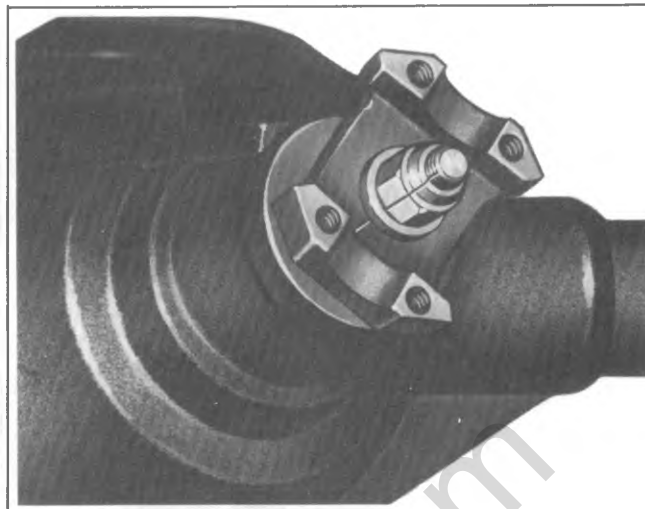

Fig. 4B-25--Scribe Marks
3. Use J-21057, as shown in figure 4B-28, to press seal into carrier bore until gauge plate is flush with the carrier shoulder and seal flange. Turn gauge plate 180° from installed position; seal must be square in carrier bore to seal properly against pinion flange.